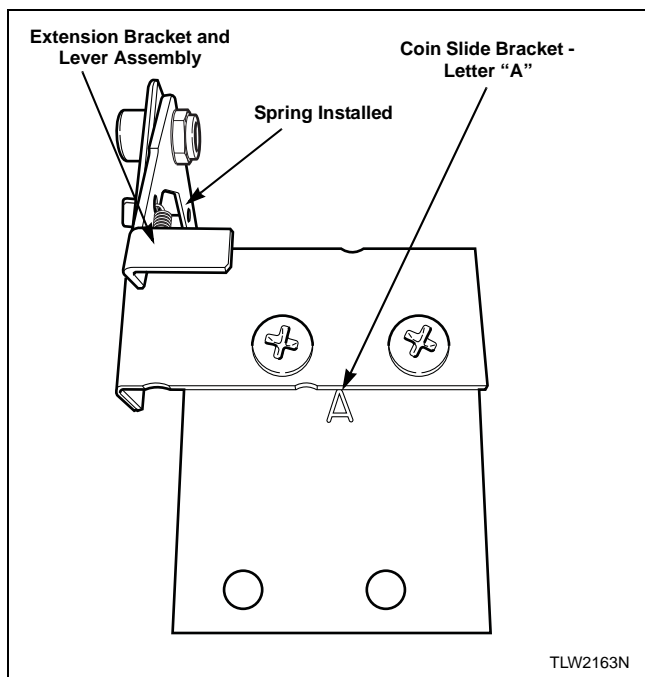

Figure 41
5. Install extension bracket and lever assembly onto coin slide bracket using two screws and locknuts. Refer to Figure 41.
**IMPORTANT: Install coin slide bracket with side marked "A" facing up and toward extension bracket and lever assembly. Refer to Figure 41.**